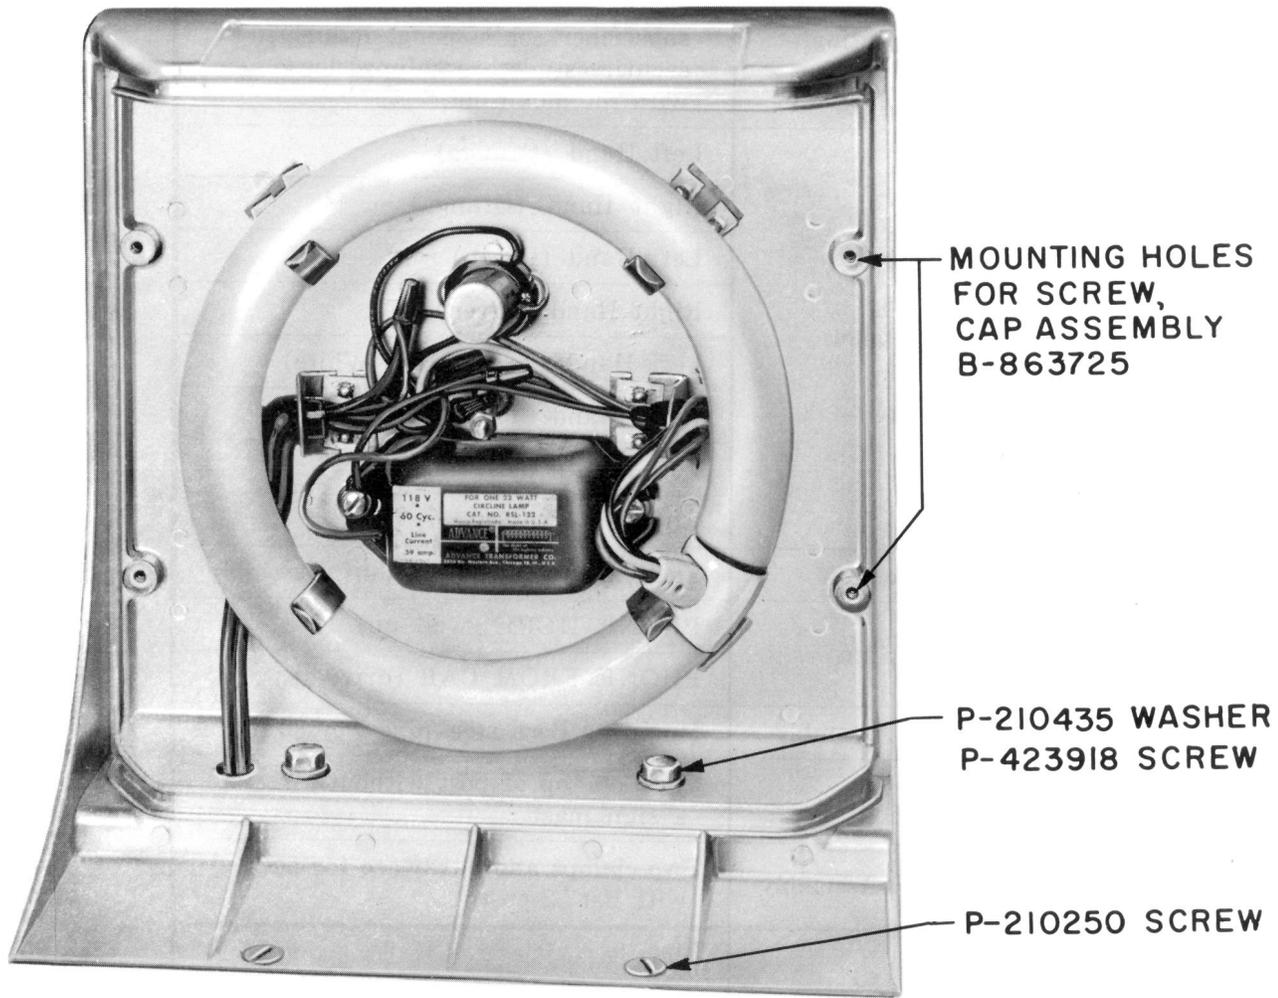

Fig. 13 — Light Assembly
**3.13** The light assembly (Fig. 13) is equipped with an FC8T9 lamp, 22-watt, and a TC2 starter.